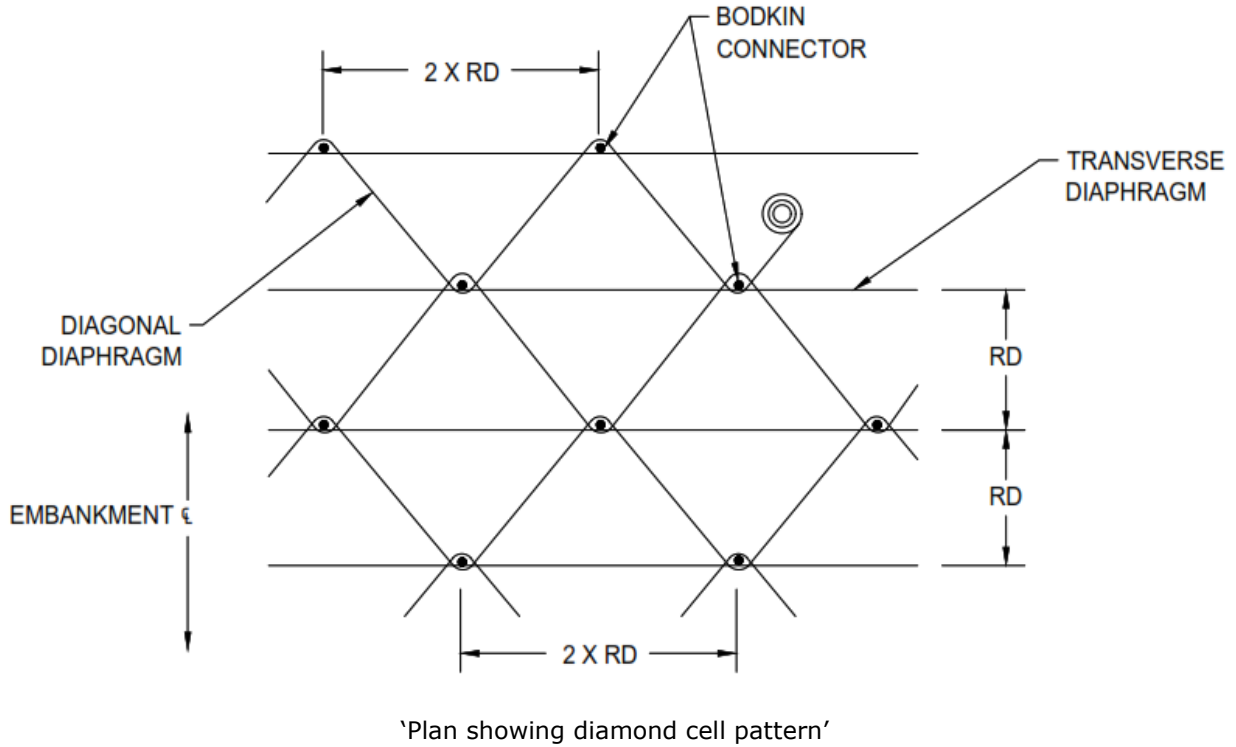
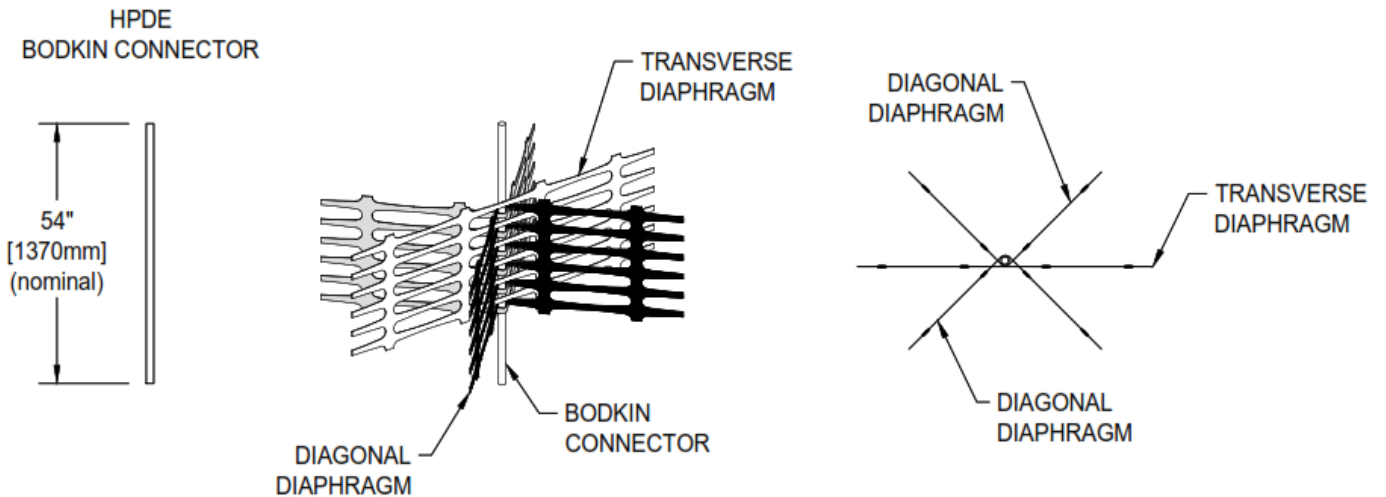

Figure 5
Figure 6
5. To create the 'diamond pattern' in plan shown in Figure 5, mark along the top edge of the transverse diaphragms for a distance of $2 \times RD$ on center with chalk or paint, and offsetting the marks on alternate diaphragms by a distance of RD . The distance RD is dependent on the height of the Stratum cellular mattress as shown in Table 1.
6. With a roll of Stratum geogrid, work along adjacent transverse diaphragms forming triangular cells with diagonal diaphragms. Each diagonal diaphragm is coupled to a transverse diaphragm at the $2 \times RD$ on center (Figure 5) using round HDPE bodkins to form bodkin connections (Figure 6). The diagonal diaphragms are NOT attached to the base grid.
7. A bodkin connection coupling is formed by folding a set of ribs of a diagonal diaphragm and pushing them through apertures in the transverse diaphragm to form a loop. A bodkin connector (Figure 6) is then pushed into and down through the loops.